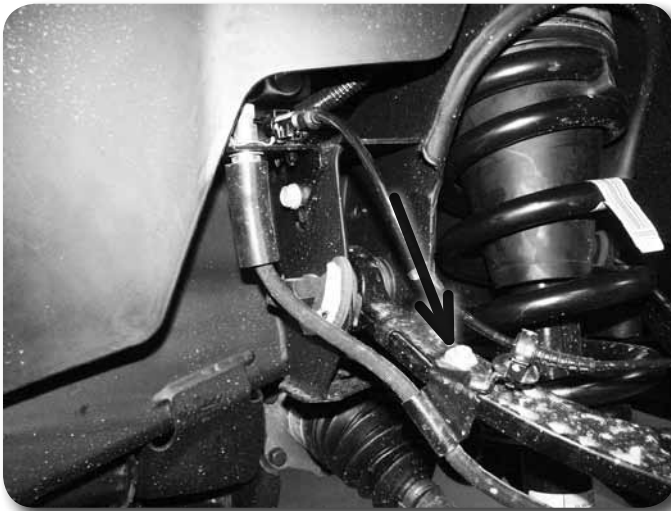

Figure 1
5. Disconnect the ABS line from the connector on the frame **Figure 1**. Remove the ABS line from the retaining clips at the frame, upper control arm and knuckle.
6. Disconnect the brake line bracket from the upper control arm **Figure 1**. Save bolt.